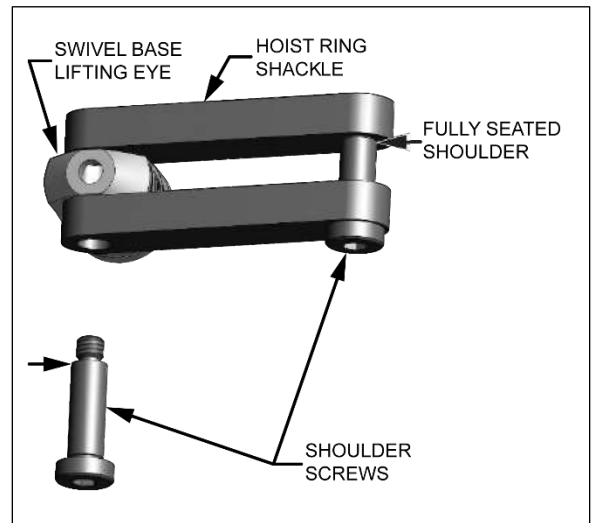
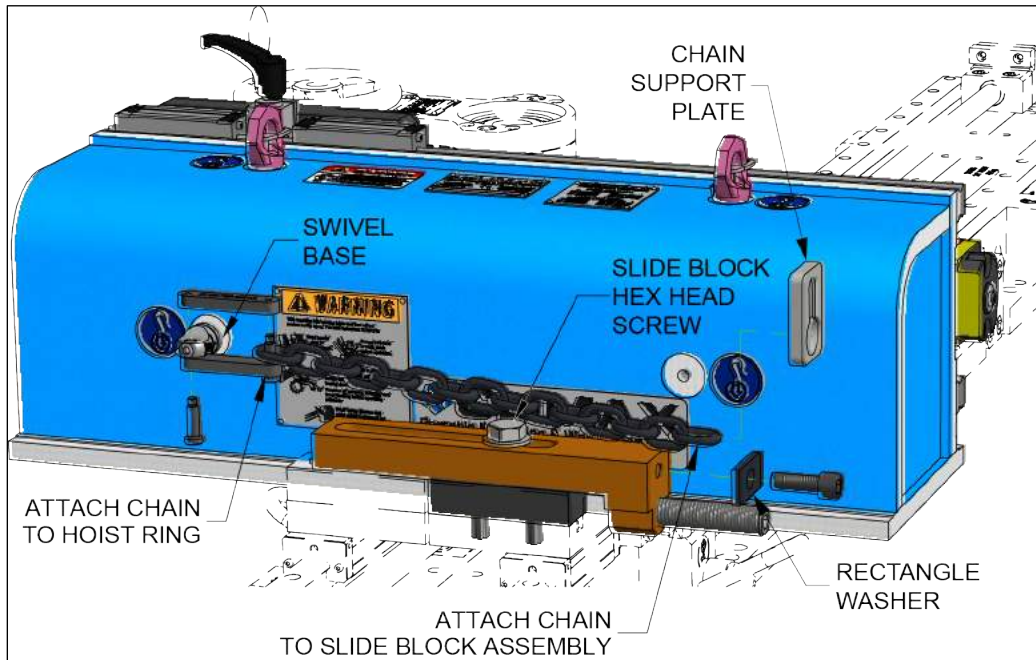

Figure 16. Seated shoulder screws
Figure 17. Safety tether chain installation
- Connect the chain end to the hoist ring shackle on the ram (Figure 17 on page 4746).
9. Install the hoist ring shackle on the swivel base lifting eye (Figure 17 on page 47).
10. Attach one end link of the chain to the shackle (Figure 17 on page 47). Thread both shoulder screws into the hoist ring shackle until the shoulder is seated (Figure 16).
11. Thread the other end of the chain through the chain support plate (Figure 17 on page 47).
12. Attach the Chain Support Plate to the Slide Block with the supplied rectangle washer and M12 socket head cap screw (Figure 17 on page 47). Torque to 65 ft-lb (88 Nm).
2. Ensure that all Z-axis slide tramming screws are retracted. X-axis tramming screws are located on the face of the Z-axis slide just inside the four mounting screws, as shown in Figure 16. Y-axis tramming screws are located on the edge of the Z-axis slide bed, as shown in Figure 17.
3. On the Z-axis slide, move the milling head mounting plate to gain access to the appropriate mounting screw holes, as shown in Figure 16.
6. Tram the Z-axis slide along the X-axis and Y-axis using the trimming screws shown in Figure 16 and Figure 17, respectively.